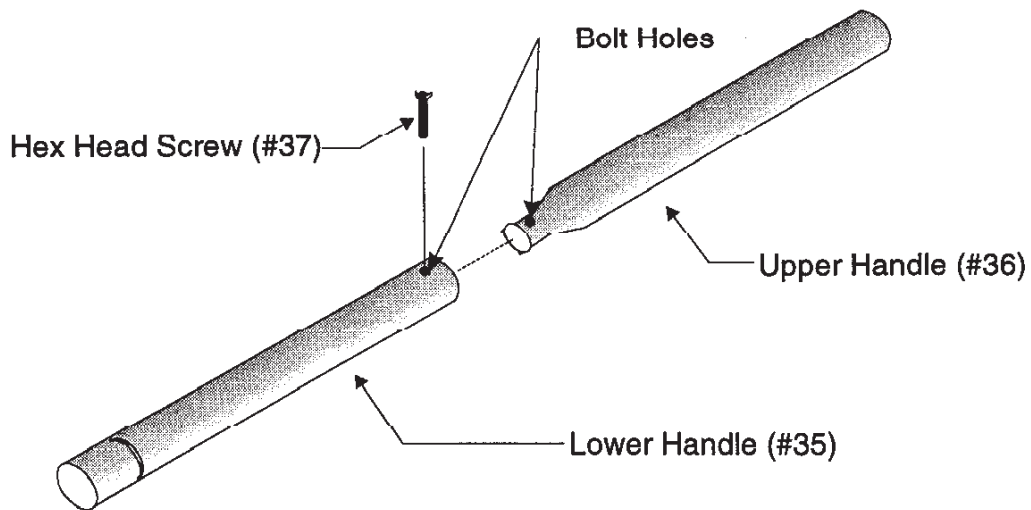

Figure 1 -- Handle Assembly
Step 3: Insert HEX HEAD SCREW and tighten with a 13/32" wrench as shown in Figure 1.